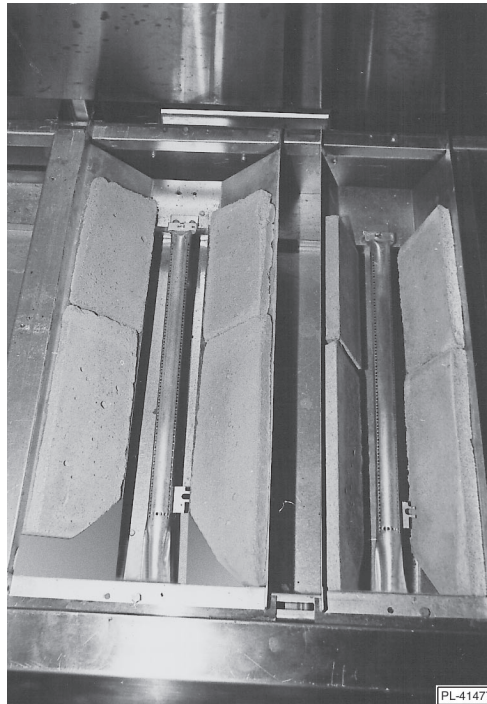

Fig. 4
- a. Two 10" x 4" (254 x 101.6 mm) bricks, placing the miter edge, one to each side of the front burner baffle area (Fig. 4).
- b. Two 7" x 4" (177.8 x 101.6 mm) bricks, one to each side of the rear burner baffle area (Fig. 4).
- c. The triangular 4¾" x 3" x ½" (111.1 x 76.2 x 12.7 mm) brick across the baffle burner area front (Fig. 4).
- c. The triangular 9⅞" x 2" x 1⅞" (239.7 x 50.8 x 47.6 mm) brick across the baffle burner area front (Fig. 4).
3. Install two 10" x 4" (254 x 101.6 mm) composite/mortar bricks, placing the miter edge, one to each side of the front burner baffle area (see Fig. 4).
4. Install two 7" x 4" (177.8 x 101.6 mm) bricks, one to each side of the rear burner baffle area (see Fig. 4).
5. Install the triangular 9⁷/₁₆" x 2" x 1⁷/₈" (239.7 x 50.8 x 47.6 mm) brick across the baffle burner area front (see Fig. 4).